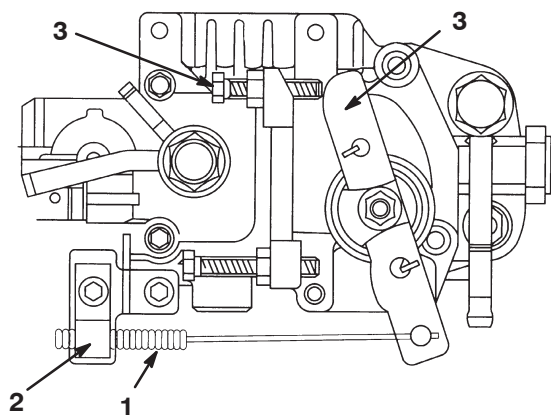

Figure 49
1. Move the remote throttle control lever to the Slow position (Fig. 49).
2. Loosen the cable clamp screw securing the cable to the engine (Fig. 49).
3. Move the cable until the speed control lever contacts the idle speed screw (Fig. 49).
2. Loosen the locknut on the idle speed screw (Fig. 49).